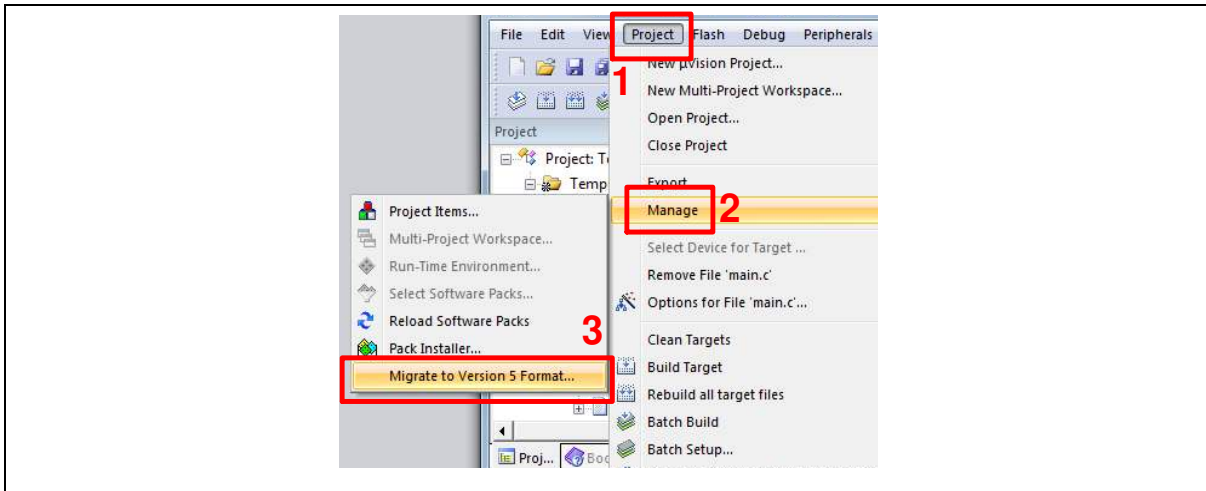

Figure 4-9 Project File Migrate to Version 5 Format
**Note:** If Figure 4-8 warning message jumps out, please migrate to version 5 format as shown in Figure 4-9. The “.uvproj” filename extension will change to “.uvprojx”.